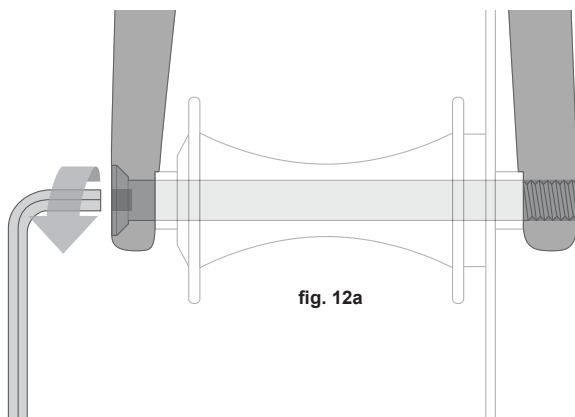
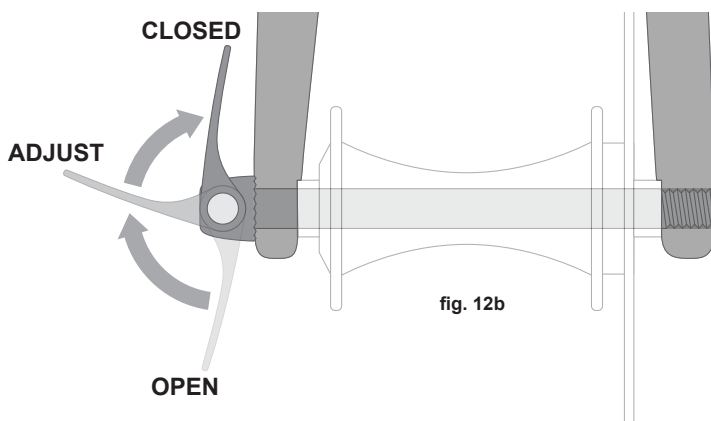

fig. 12a
fig. 12b
#### a. Adjusting the thru-axle mechanism (fig. 12a & 12b)
The thru-axle is inserted through the unthreaded hole in the frame or fork's dropout, through the wheel hub, and is threaded directly into the opposing dropout by tightening the thru-axle. Common installation methods may use an Allen hex key (**fig. 12a**) or a cam lever (**fig. 12b**). Please refer to the manufacturer's instructions for specific information about your thru-axle's operation, including correct torque specifications or lever adjustment information.
(4) If your bike has a thru-axle front wheel mounting system (**figs. 12a & 12b**), loosen and remove the thru-axle according to the manufacturer's instructions, then remove the front wheel.
- (c) With a thru-axle system, tighten the thru-axle (**figs. 12a & 12b**) according to the manufacturer's instructions.
(6) If you disengaged the brake quick-release mechanism in 4. a. (1) above, re-engage it to restore correct brake pad-to-rim clearance.
(7) Spin the wheel to make sure that it is centered in the frame and clears the brake pads; then squeeze the brake lever and make sure that the brakes are operating correctly.
(5) If your bike has a thru-axle rear wheel mounting system (**figs. 12a & 12b**), loosen and remove the thru-axle according to the manufacturer's instructions.
(6) Push the rear wheel forward far enough to be able to remove the chain from the rear sprocket, then lift the rear wheel off the ground a few inches and remove it from the rear dropouts.
(c) With a thru-axle system, tighten the thru-axle (**figs. 12a & 12b**) according to the manufacturer's instructions.